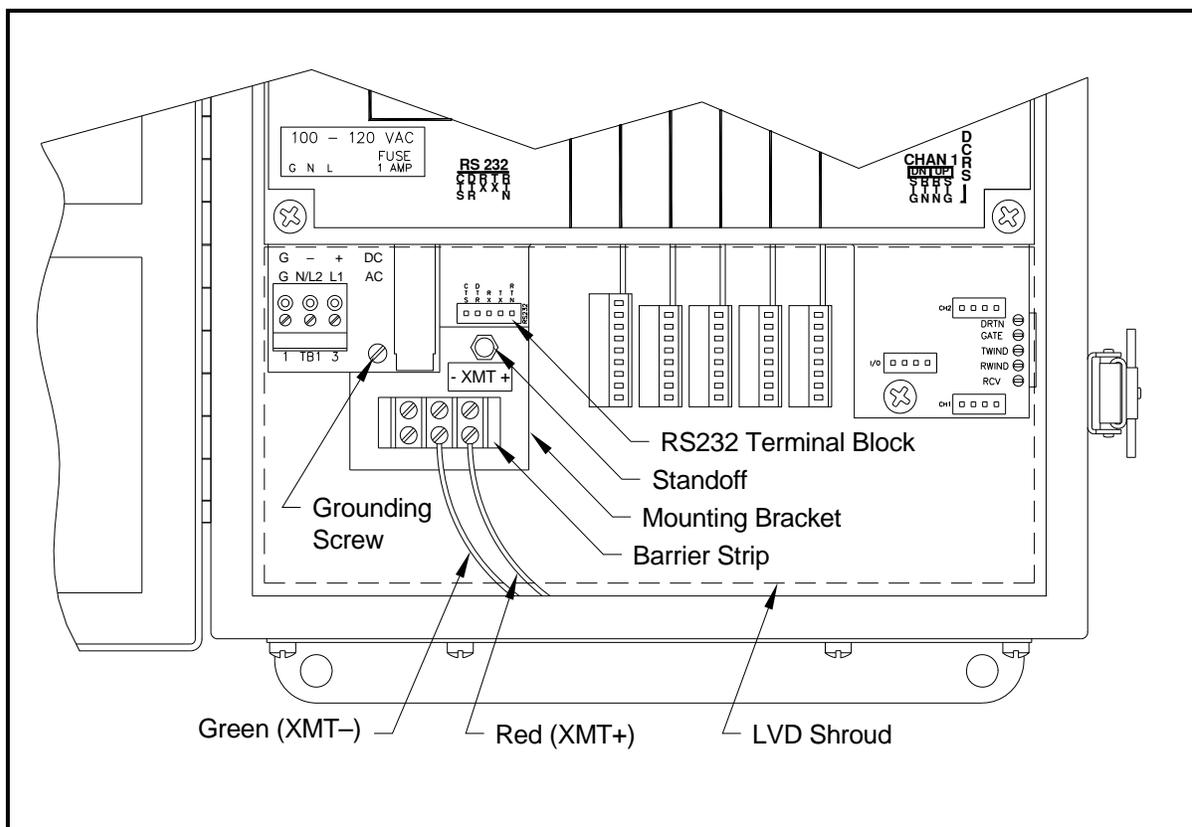

Figure 8: Interface Converter Mounting
A special bracket containing the serial interface converter and a three-terminal barrier strip is mounted inside the Model DF868, just below the RS232 terminal block (see Figure 8). The standard RS232 terminal block is wired to the input of the serial interface converter, and the RS485 output of the serial interface converter is wired to the barrier strip.
Standard factory wiring of the RS485 serial interface is configured for point-to-point wiring. That is, a single Model DF868 may be wired directly to a single personal computer. To connect the RS485 serial interface, refer to Figure 8 on page 85 and complete the following steps:
3. Remove the serial interface converter *mounting bracket* by removing the standoff located below the RS232 terminal block and the grounding screw just to its left (see Figure 8 on page 85).